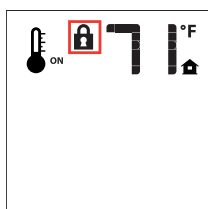

Figure 34 - Remote Control Displaying Key Lock Mode
1. To activate this function, press the MODE and UP keys at the same time. A lock icon will appear on the LCD screen (see Figure 34).